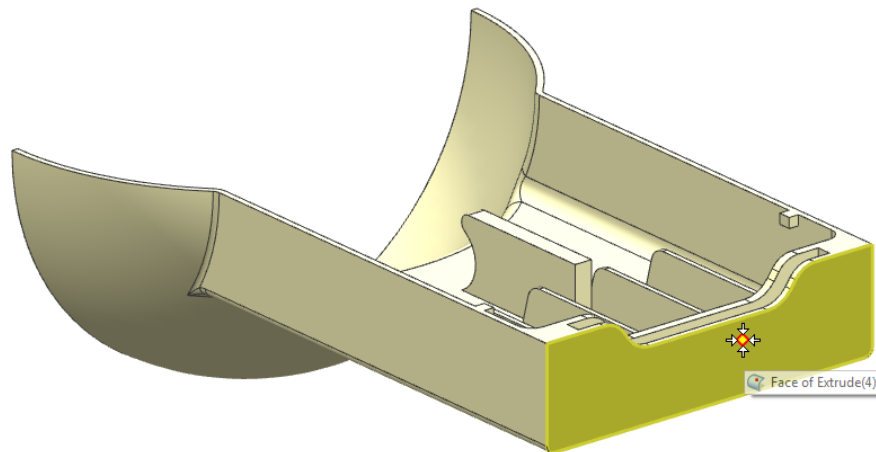

Figure 16-74 The face selected for gate placement
- b. Create a gate for analyzing the model, refer to Figure 16-74.
- 12. Select the **Point on Face** option from the **Type** drop-down list; you are prompted to select a face at point location, refer to Figure 16-74.